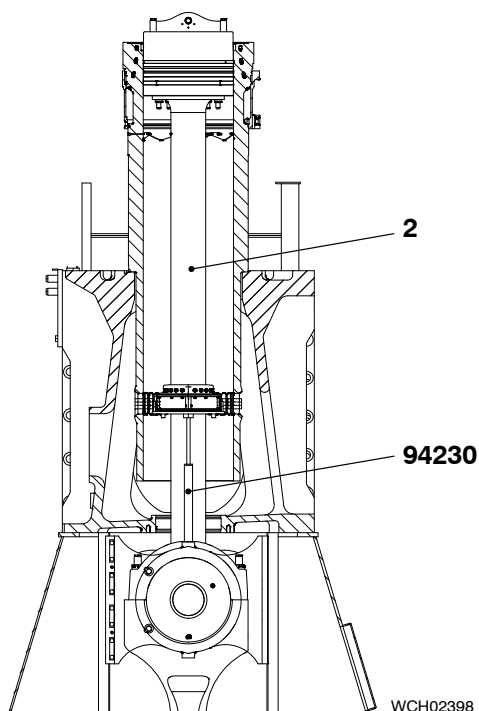
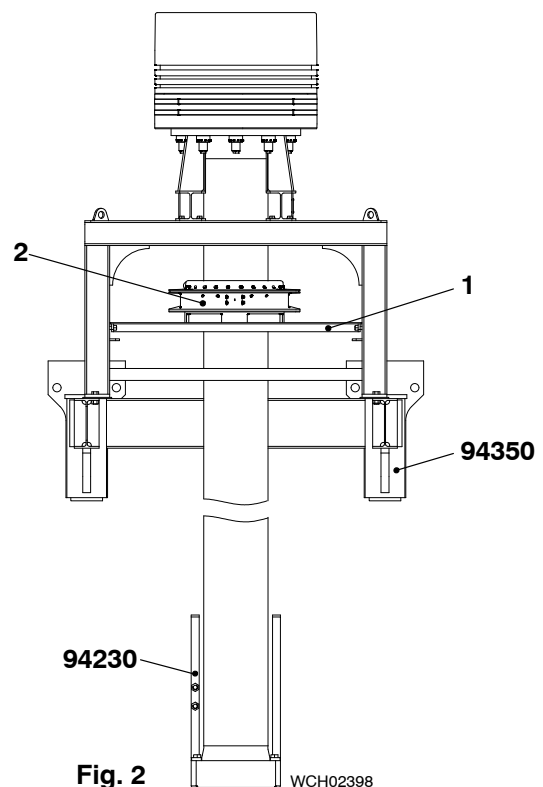

Fig. 1
Fig. 2
- 3) Attach the two distance holders (94230, Fig. 1) to the piston rod (3).
- 4) Remove the four inner bolts (1) from the support (2).
- 6) Make sure that the piston rod gland (2, Fig. 2) is in the correct position on the two hinged covers (1).